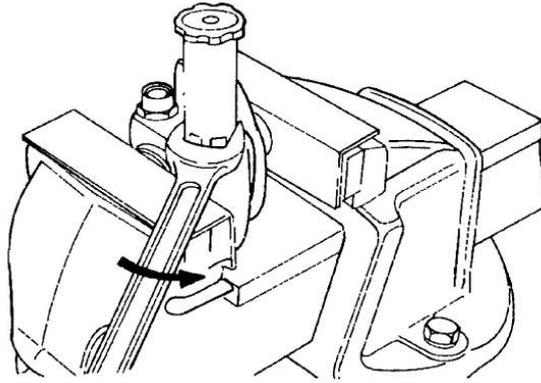

Figure 130 Removal of the Priming Pump
- b. Clamp the pump in a suitable vice ensuring soft jaw covers are used. Remove the priming pump and discard the O ring (Figure 130).